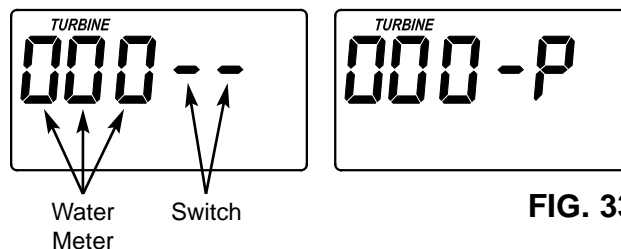

FIG. 33
3. The letter "P" and a dash (or dashes) indicate position switch operation (See Figure 33). If the letter appears, the switch is closed. If two dashes show, the switch is open.